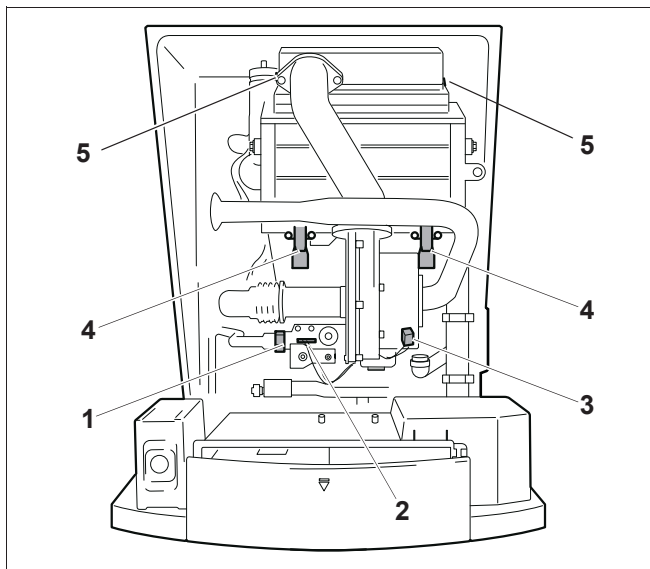
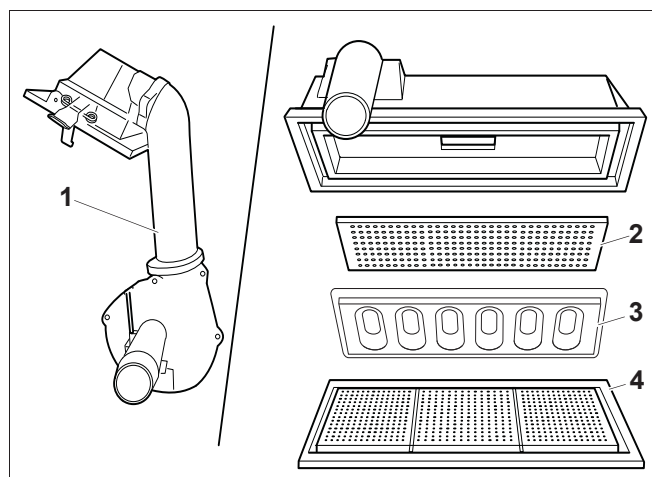

Fig. 44 Removing the connections
Fig. 45 Cleaning the burner cover, gas/air distributor plate, orifice plate and burner
- Loosen the threaded connection to the gas control valve (see fig. 44, pos. 1) and pull the plug (see fig. 44, pos. 2) from the gas valve terminal block.
- Pull the plug from the fan unit (see fig. 44, pos. 3).
- Loosen both sets of retaining clips (fig. 44, pos. 4 and 5) of the burner cover and remove the burner cover with the fan unit and the gas burner fitting (see fig. 45, pos. 1).
- Remove the gas/air distributor plate (see fig. 45, pos. 2), the orifice plate (GB142-24, GB142-30 and GB142-60 only, fig. 45, pos. 3) and the burner (see fig. 45, pos. 4). Note that the orifice plate of the GB142-60 has a different shape.